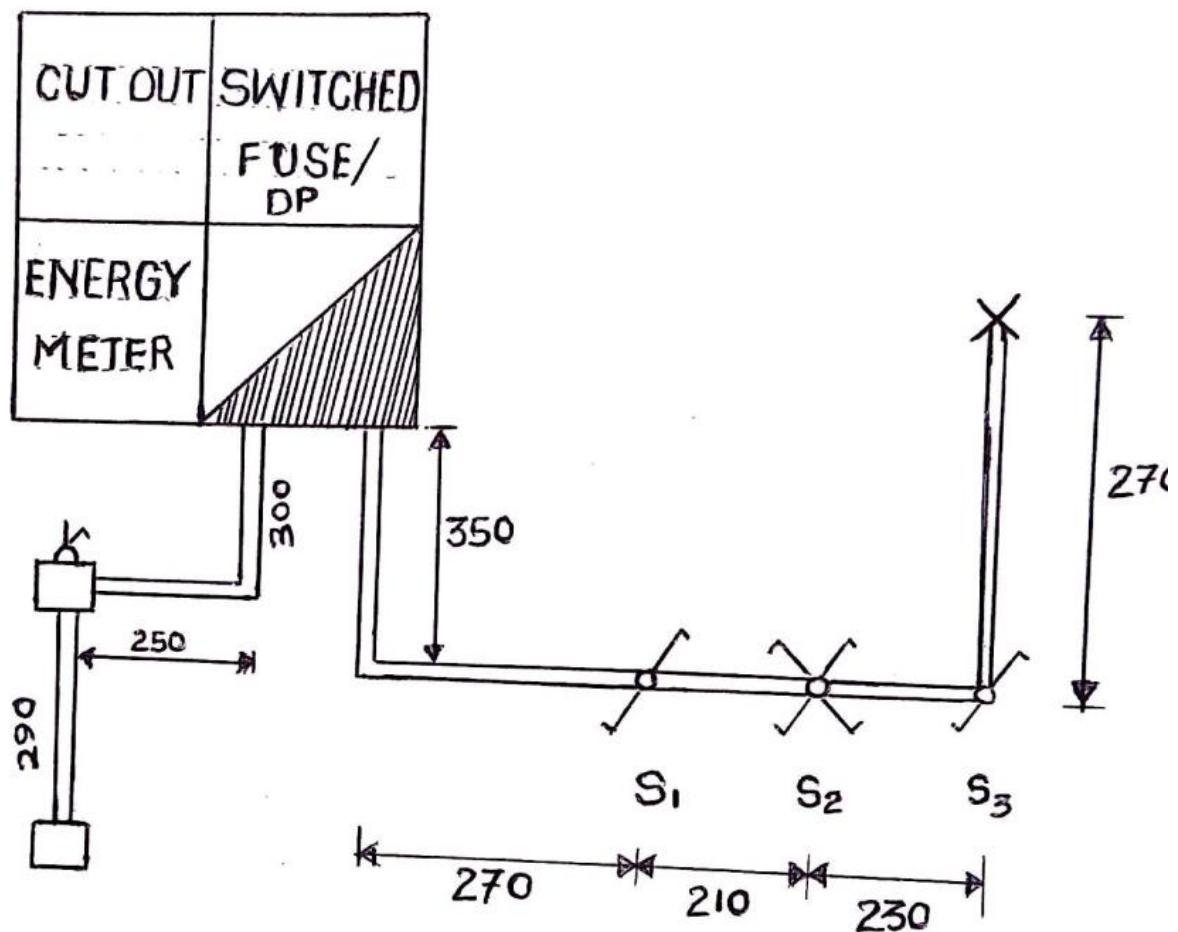

Figure 1
2. Figure 1 shows a layout diagram of the final sub-circuit. Draw a wiring diagram such that switches S_1 , S_2 , and S_3 control lamp Q independently